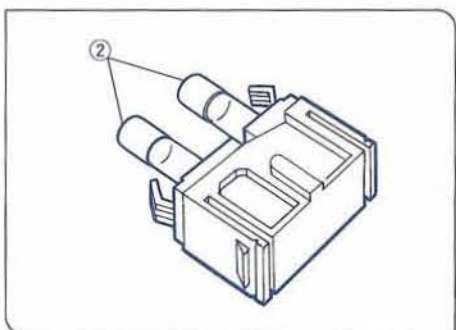

Fig. 16
2. Replace both fuses ② with new ones. (Fig. 16)